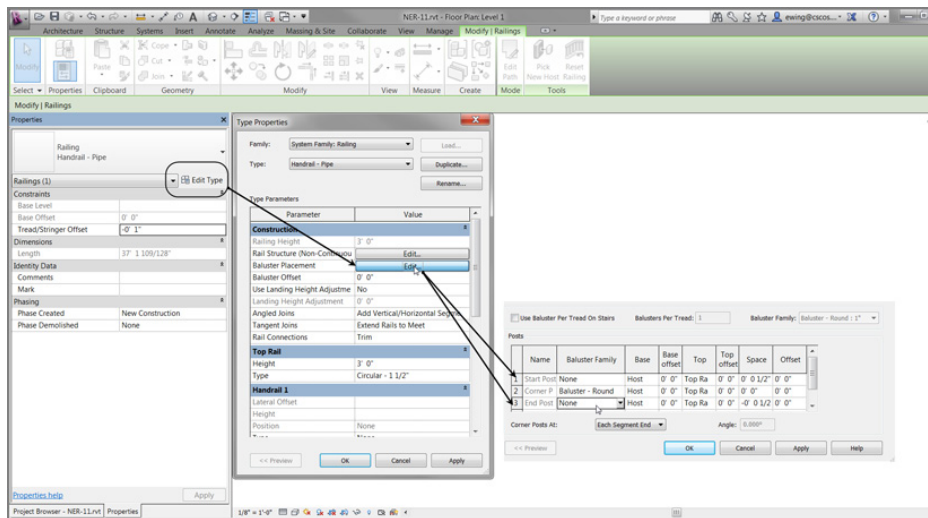

FIGURE 10.24: Configuring the default settings for the railing type Handrail - Pipe - Horizontal Railing
8. Select None for the Start and End posts under the Posts category, as shown in Figure 10.24.